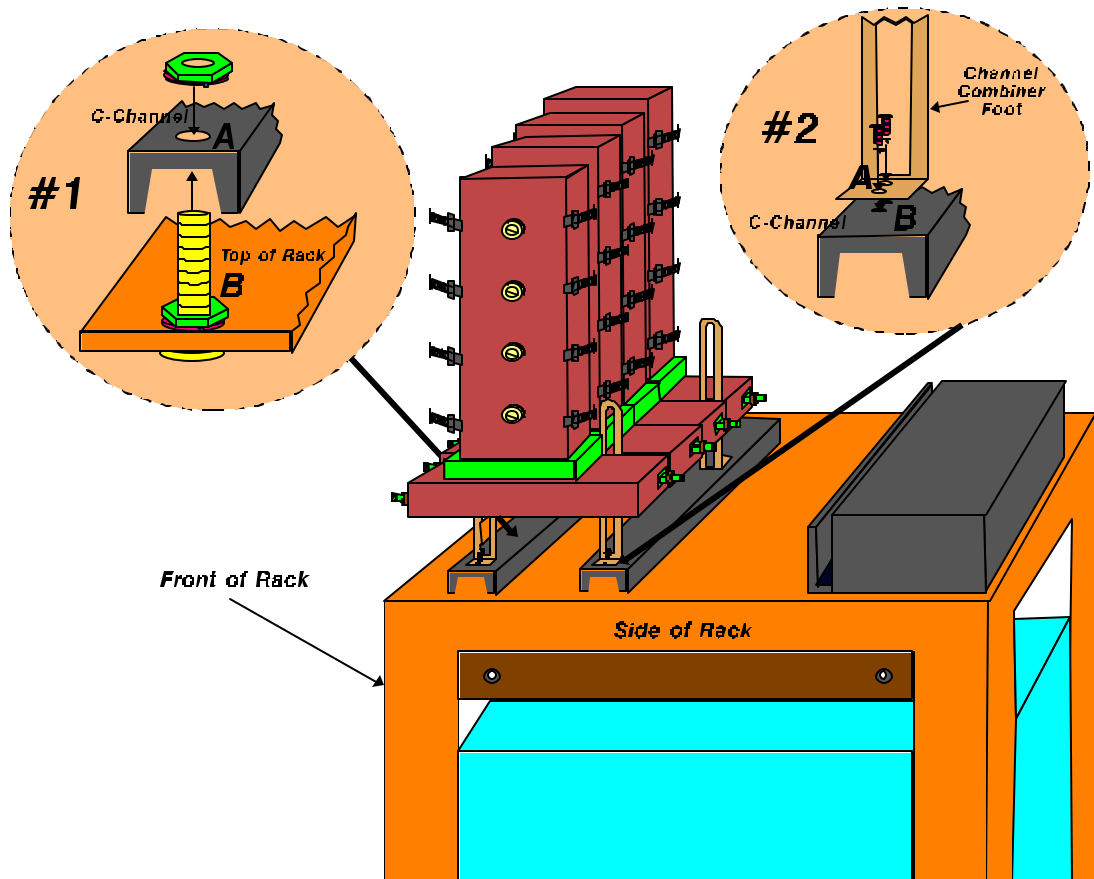

Figure 3: Channel combiner mounting.
See Figure 3 for numerical references. A 99-093-02-option kit is typically used to mount the channel combiners to the top of the rack. To begin mounting, the C-Channel must be fastened to the top of the rack. Refer to Bubble #1 for a magnified view of mounting the C-Channel to the rack. Align the pre-drilled holes of the C-Channel (A) to the pre-existing #10-32 2" screws, nuts, and split-locking washers (B) in the top of the rack. Insert hole A onto hardware B and secure with a nut and split-locking washer as shown.